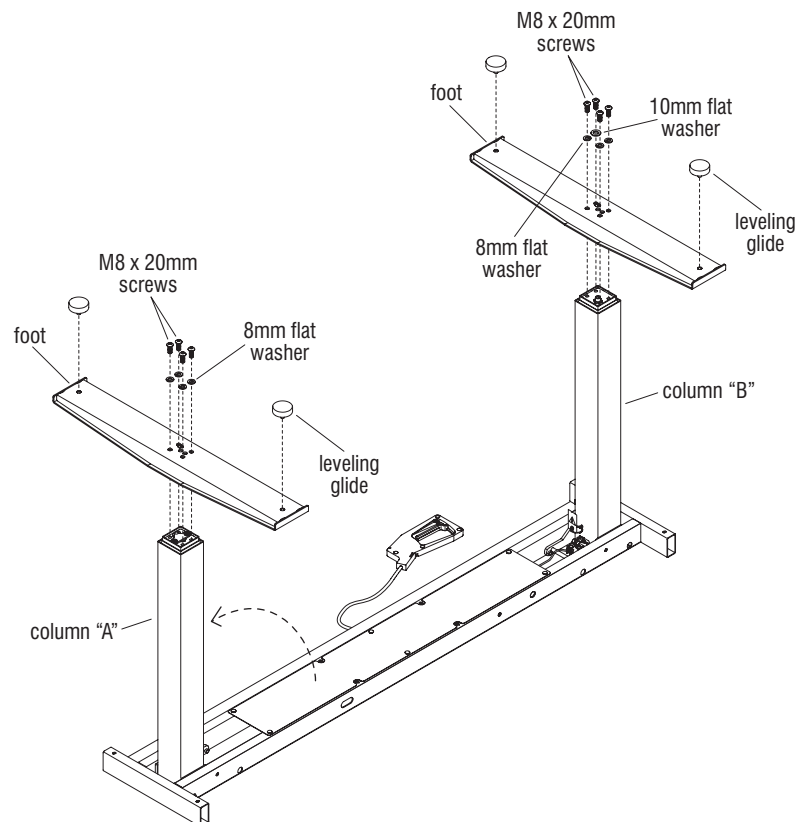

Figure 3
1. With the base inverted, place a foot over the end of column "A" so the column fits into the square hole in the foot. The holes in the foot should line up with the four holes in the column end. The short threaded rod that protrudes from the column end should also line up with a hole in the foot. If not the foot needs to be removed and repositioned (Figure 3 & Detail C).
2. Attach the foot using four M8 x 20mm screws and four 8mm flat washers (Figure 3).
3. Thread a leveling glide into the holes at the ends of the foot (Figure 3).
1. Place a foot over the end of column "B" so the column fits into the square hole in the foot. The holes in the foot should line up with the three holes and special nut in the column end. If not, the foot needs to be removed and repositioned (Figure 3 & Detail B).
2. Attach the foot using three M8 x 20mm screws with three 8mm flat washers, and one M8 x 8mm screw with one 10mm flat washer (Figure 3).